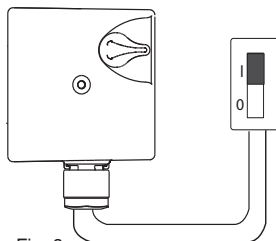

Fig. 6
**Set the speed as follows (fig. 6):**